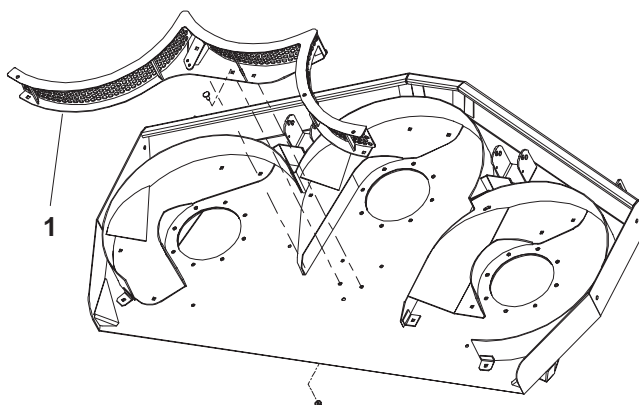

Figure 1
3. While aligning the holes in the front deck mulching screen with the existing holes in the deck, position the front deck mulching screen into the deck as shown in figure 1.
4. Using carriage bolts and nuts, mount the front deck mulching screen to the deck as shown in figure 1.